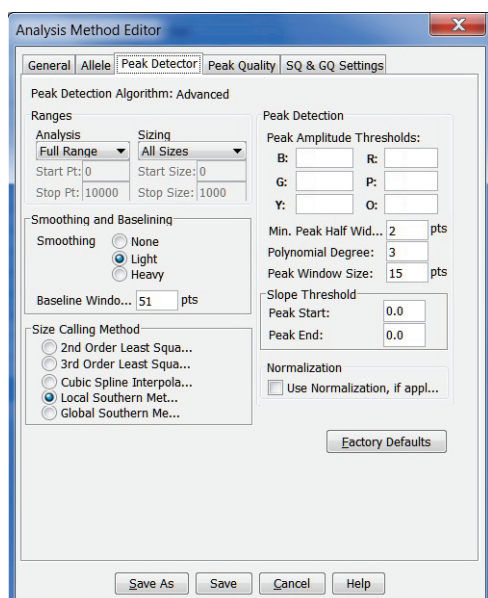

Figure 27. The GeneMapper® ID-X 'Peak Detector' tab.
9. Select the 'Peak Detector' tab (Figure 27). You will need to optimize these settings. In-house validation should be performed.